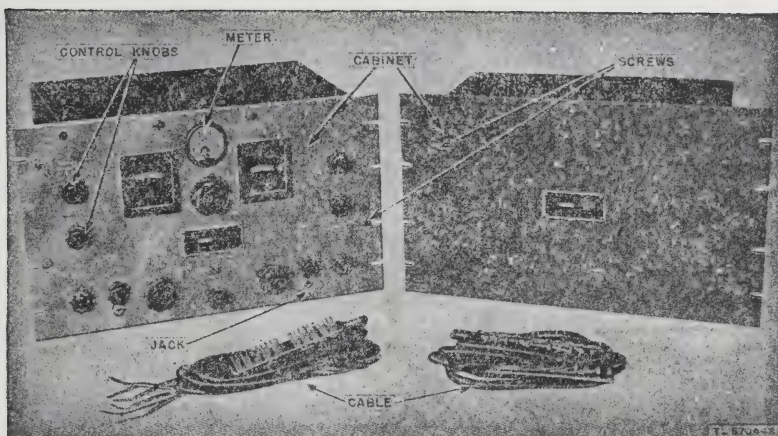

Figure 16. Radio receiver and power supply unit, typical preventive maintenance items, exterior view.
44. Item 1, Exterior of Receiver and Power Supply Unit (fig. 16)